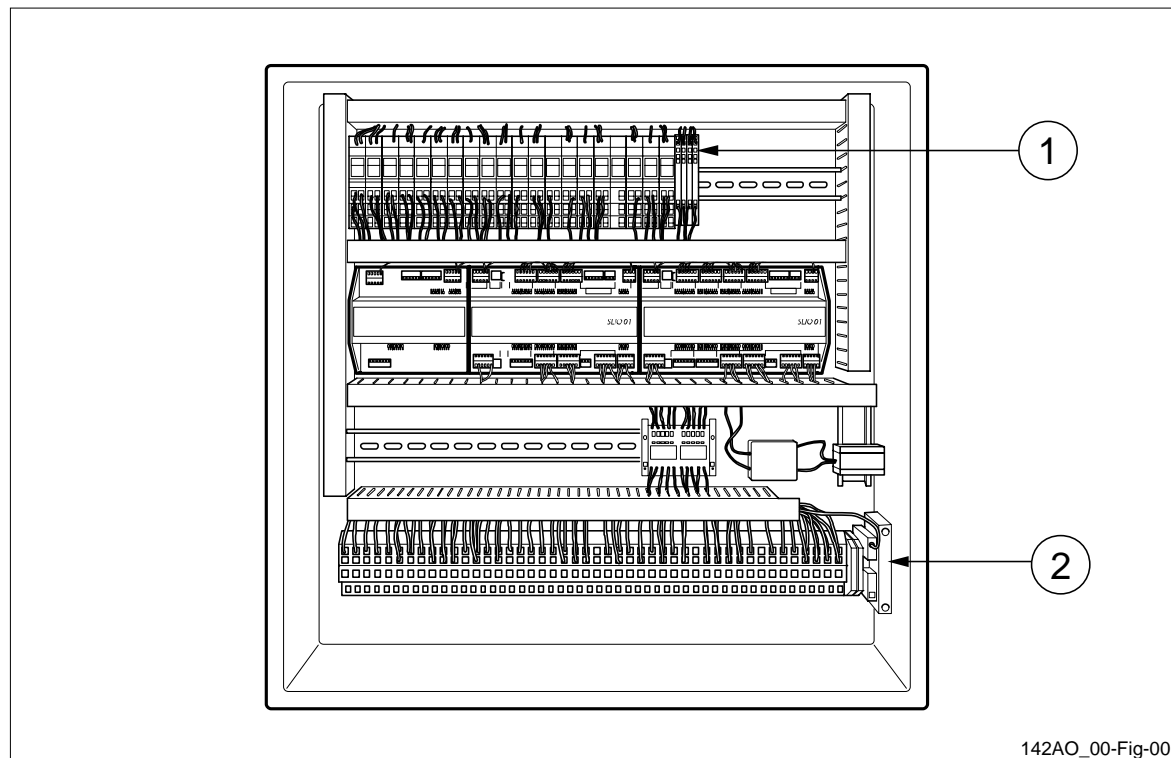

Figure 5 Isolation amplifier I/I in an ECR unit cabinet.
1. Open the ECR unit cabinet and make sure the incoming power is interrupted, for example, by setting the automatic fuse (see position 2 in figure 5) to position OFF.